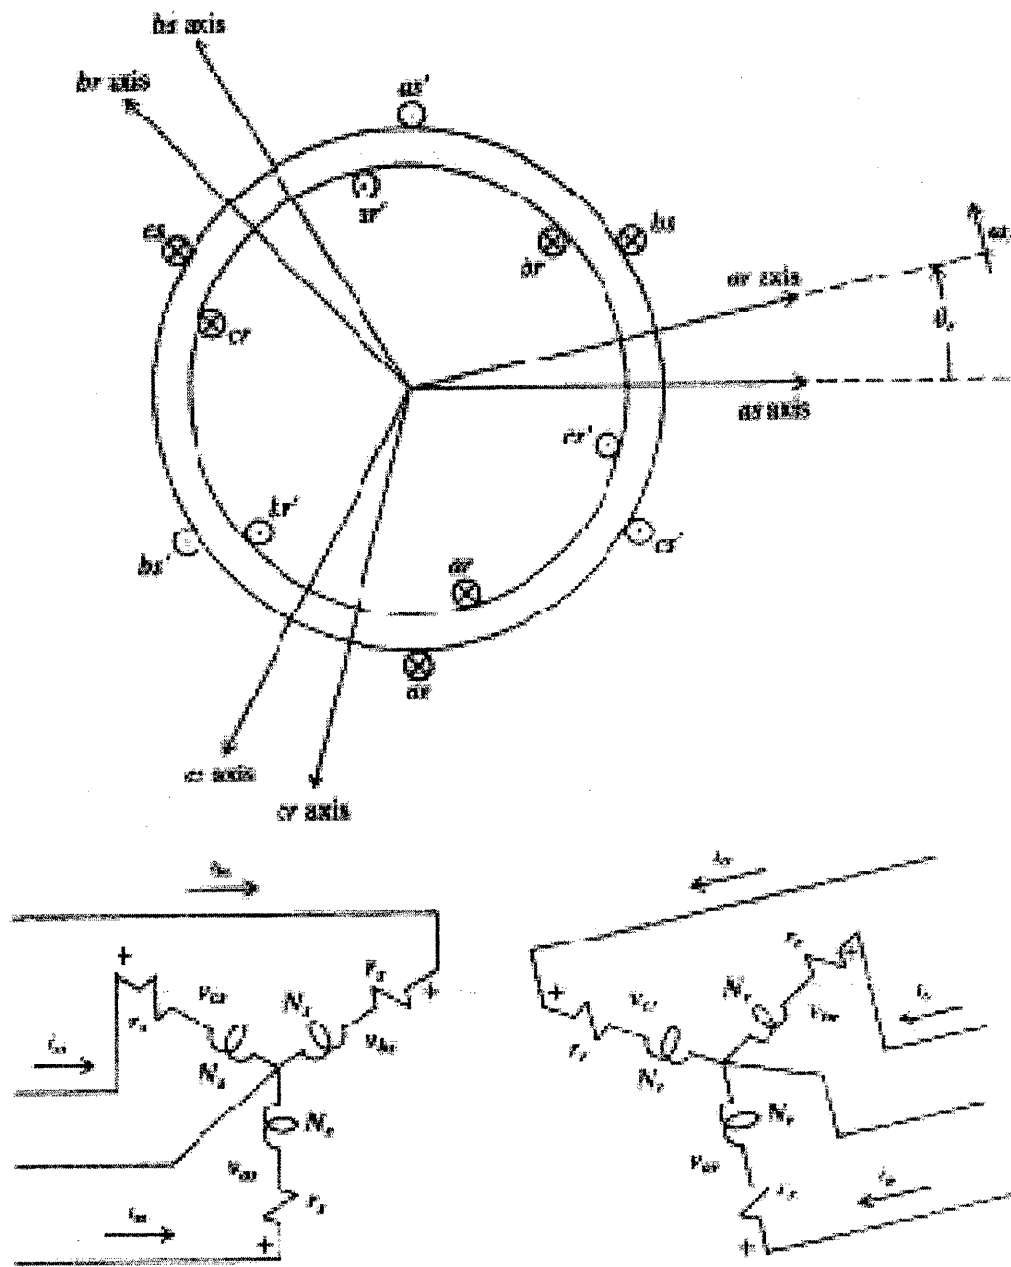

Fig.3
Q.4) For the arrangement shown in Fig.3, derive the expression for voltage equations expressed in terms of machine variables referred to the stator windings.
Q.6) For the arrangement shown in Fig.3, derive the expression for voltage equations expressed in terms of machine variables referred to the stator windings.